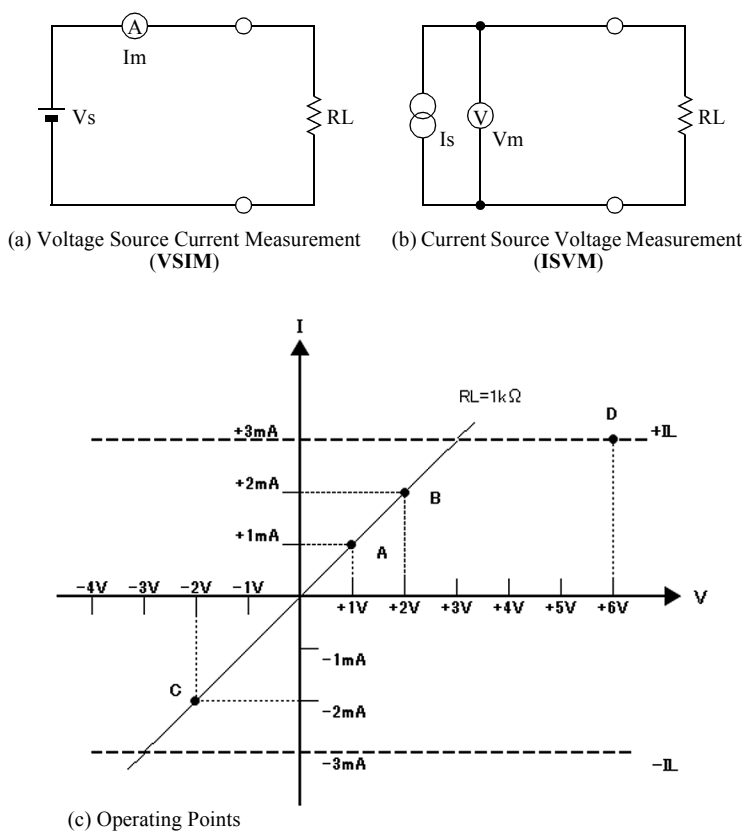

Figure 2-15 DC Measurement
The OPR indicator goes ON showing the Operate status (output ON). The measured current value is displayed when 1 V is applied to the 1 k $\Omega$  resistor. (See Point A in Figure 2-15.)
The measured current value is displayed when 2 V is applied to the 1 k $\Omega$  resistor. (See Point B in Figure 2-15.)
10. Press  to move the cursor to "+," and change the source value to -2 V with  or . (See Point C in Figure 2-15.)
As the source current is limited by the current limiter, the limiter indicator goes ON. (See Point D in Figure 2-15.)
14. Press **MON** twice to switch to voltage measurement. (See Point B in Figure 2-15.)